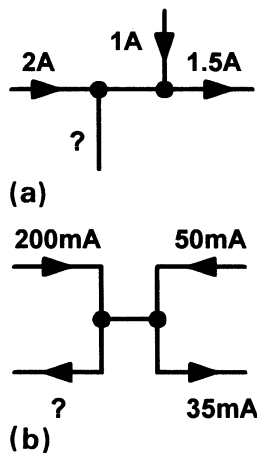

Figure 3.42
- 3.3 Determine the unknown current in each circuit shown in Fig. 3.42.